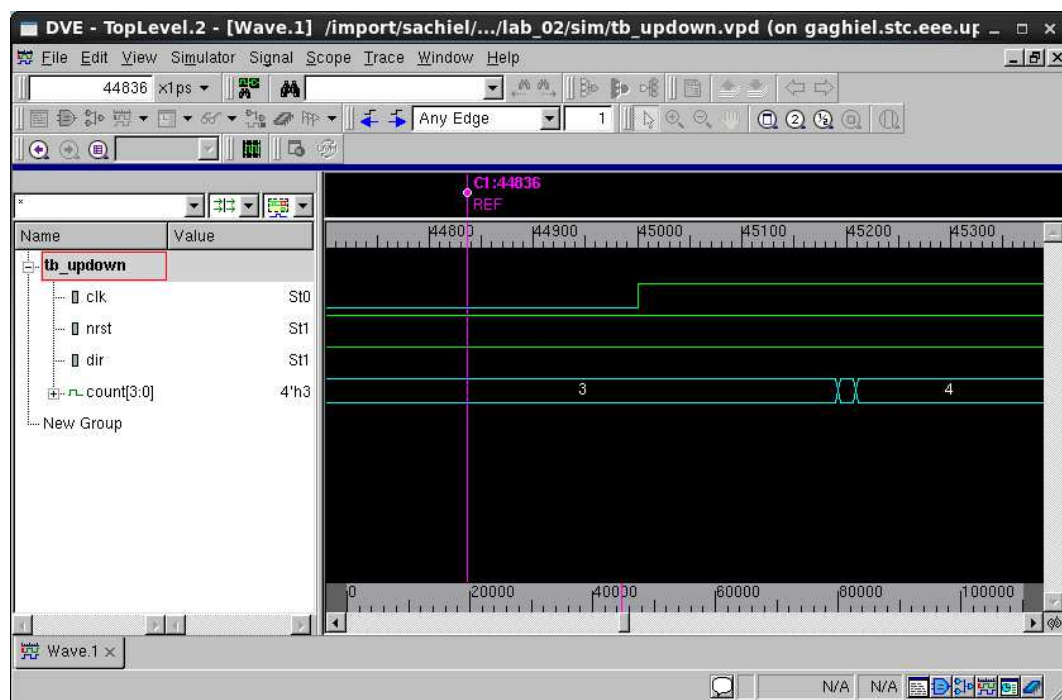

Figure 6: Glitches and logic delay
6. One important difference between synthesized and unsynthesized designs is that glitches and logic delays are already introduced in the synthesized design. Zooming in to a rising edge clock transition clearly shows this, as shown in figure 6